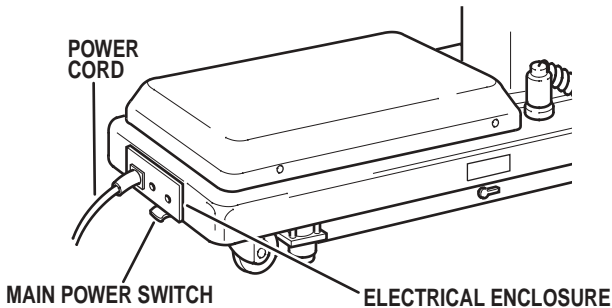

Figure 2-1. Main Power Switch
b. Depress “Main Power ON/OFF” switch on the electrical enclosure. See figure 2-1. The green Power On indicator light on the pendant control unit should now be illuminated.